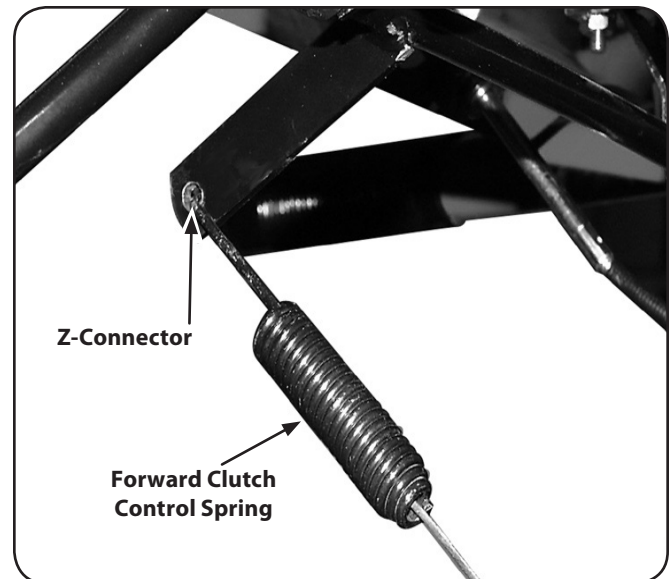

Figure 3-7
2. The forward clutch control cable (with attached spring) is hanging loosely near the right-side wheel. Being careful not to kink or stretch the cable, insert the z-connector into the hole at the end of the forward clutch control linkage. See Fig. 3-7.